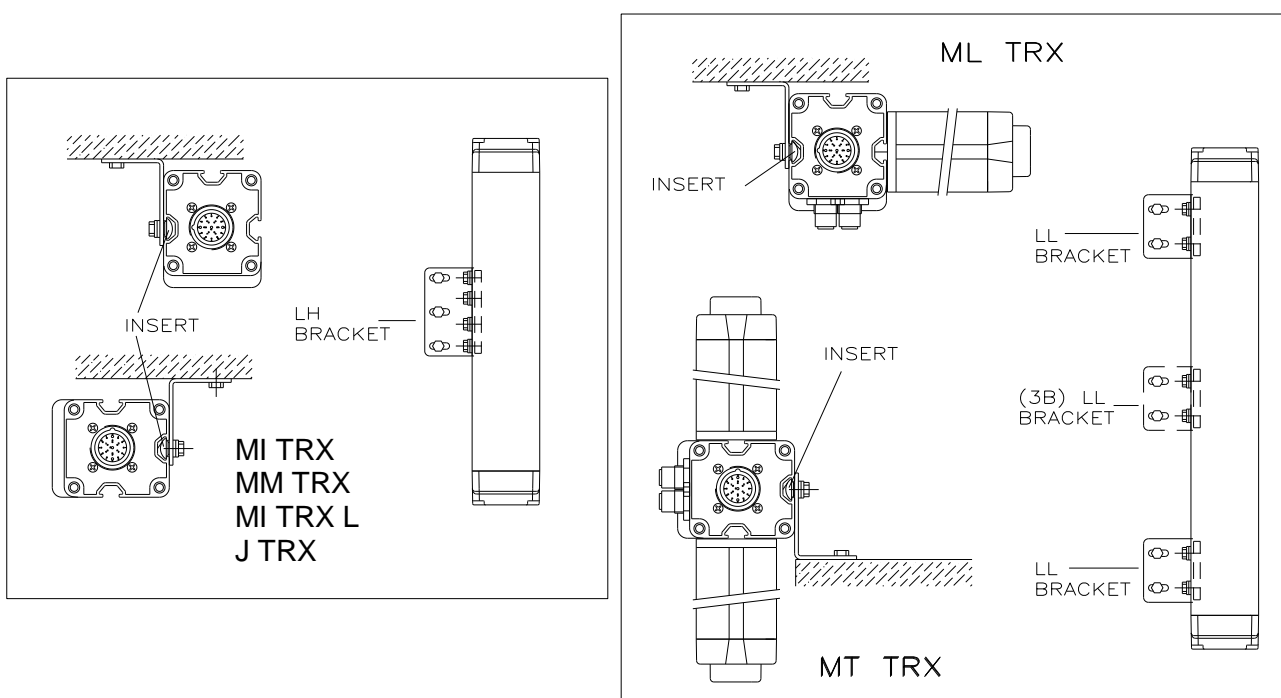

Figure 21
The fastening inserts can be located in the rear or in the side spline of the units, depending on the dimensions and shape of the machine rest (Figure 21).
- ML/MT MODELS: these are supplied with two LL brackets (three for 3B models) which must be fixed as indicated in Figure 21.